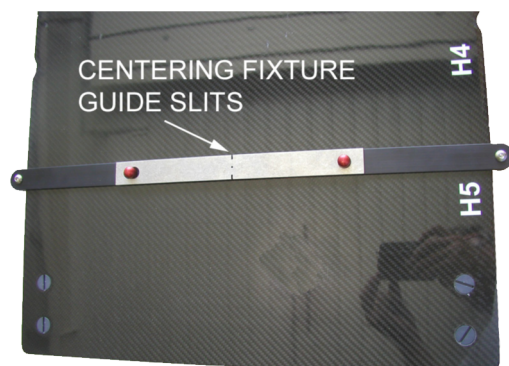

Fig. 44
2. Use the CT Laser alignment system to define the center of the CT Overlay on the head of the Overlay. Use the gripping eccentrics to center the Overlay on the beam. (see Step 1 in “Adjust Head End Alignment Eccentrics” Section) (Fig. 44).